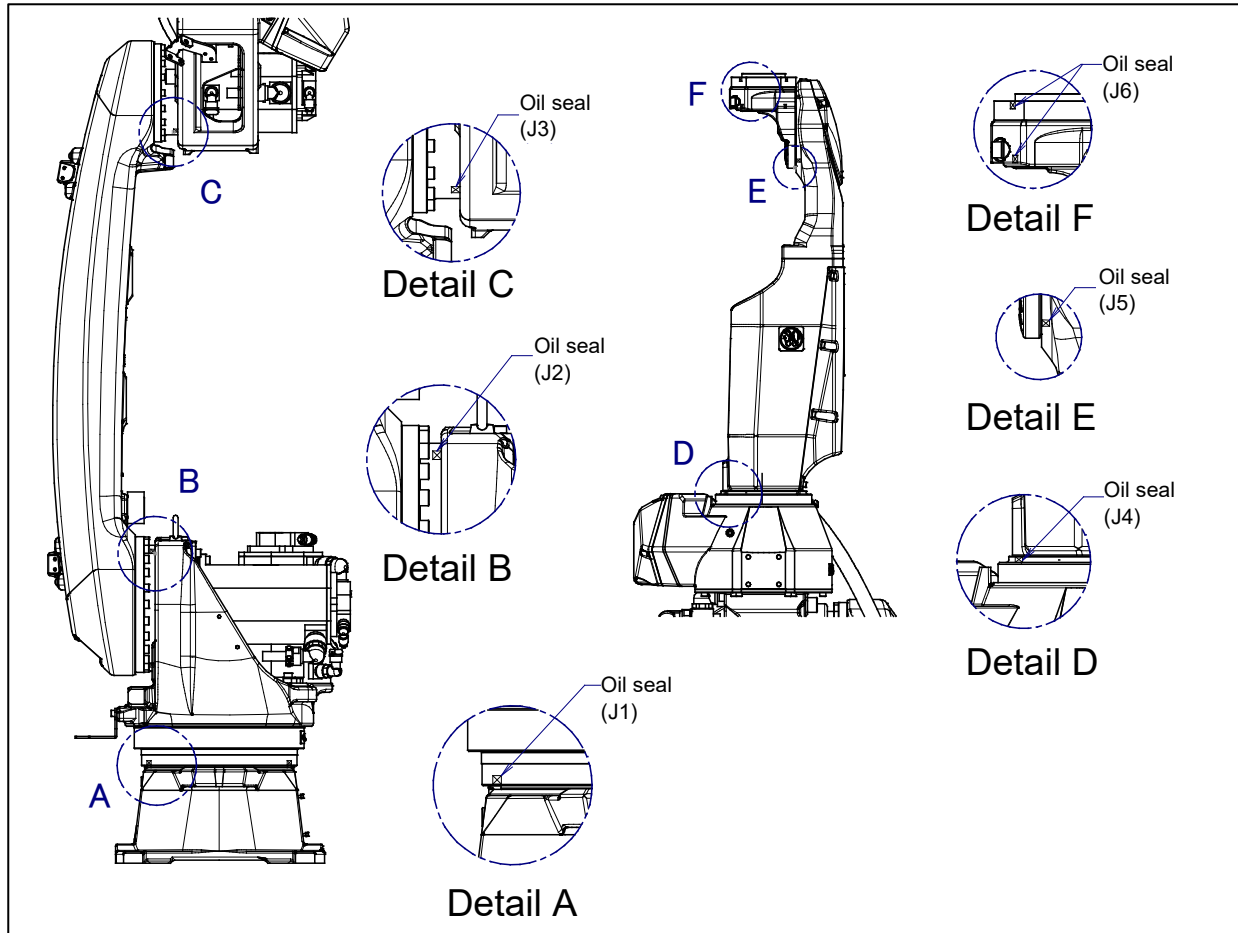

Fig. 7.2.1 (a) Check parts of oil seepage
- Oil might accumulate on the outside of the seal lip depending on the movement condition or environment of the axis. If the oil viscosity changes, the oil might drip depending on the axis movement. To prevent oil spots, be sure to wipe away any accumulated oil under the axis components in Fig. 7.2.1 (a) before you operate the robot.